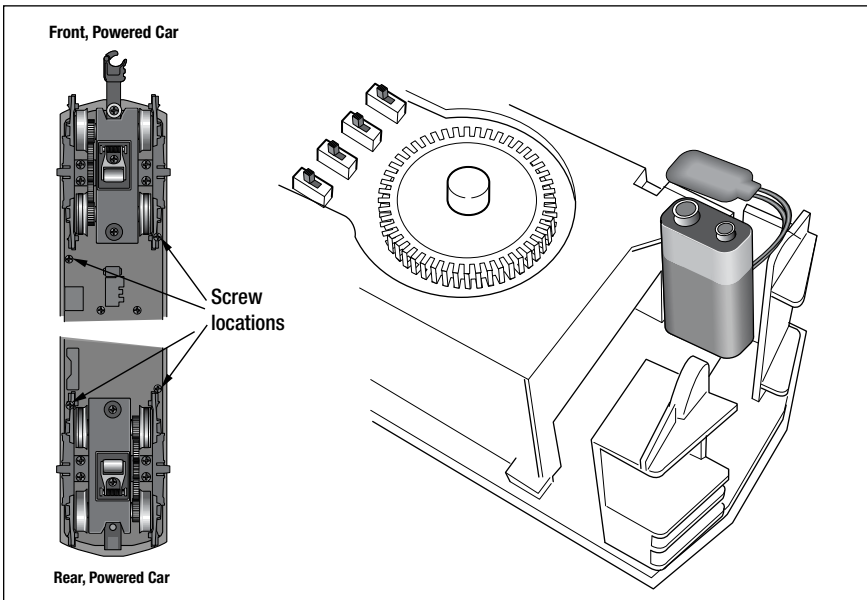

Figure 5. Installing the battery in the powered car
1. Remove the body screws from the underside of the body. Refer to Figure 5 for the location of the screws.
General internal lighting in the cars is provided by two types of incandescent bulbs. Removing the screws as shown in Figure 5 on page 22 will allow access to the interior of the cars. Due to the complexity of the disassembly required, we recommend that you take your Subway to your authorized Lionel Service Center for any lamp replacement.